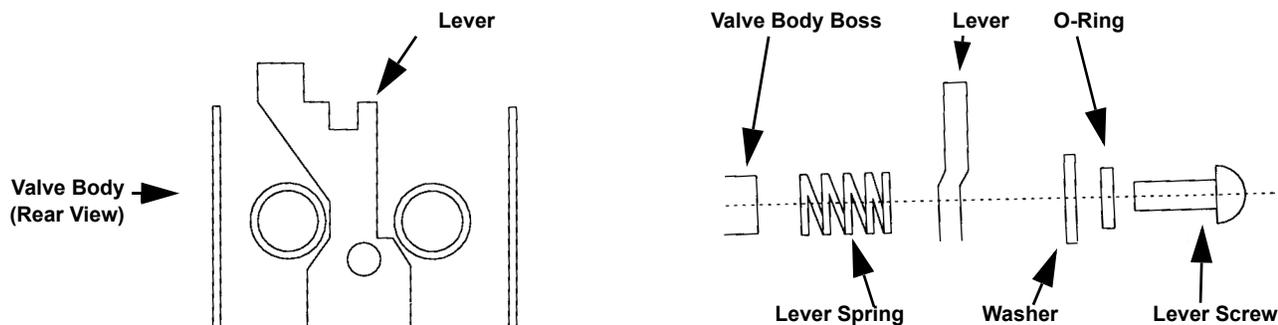

FIGURE 3
11. Place lever spring over valve body boss (see Figure 3).
12. Assemble *Self-Serve Lever* onto valve body by inserting top end of lever (switch actuation end) through slot on bottom of valve body and positioning hole in lever over valve body boss (see Figure 3).